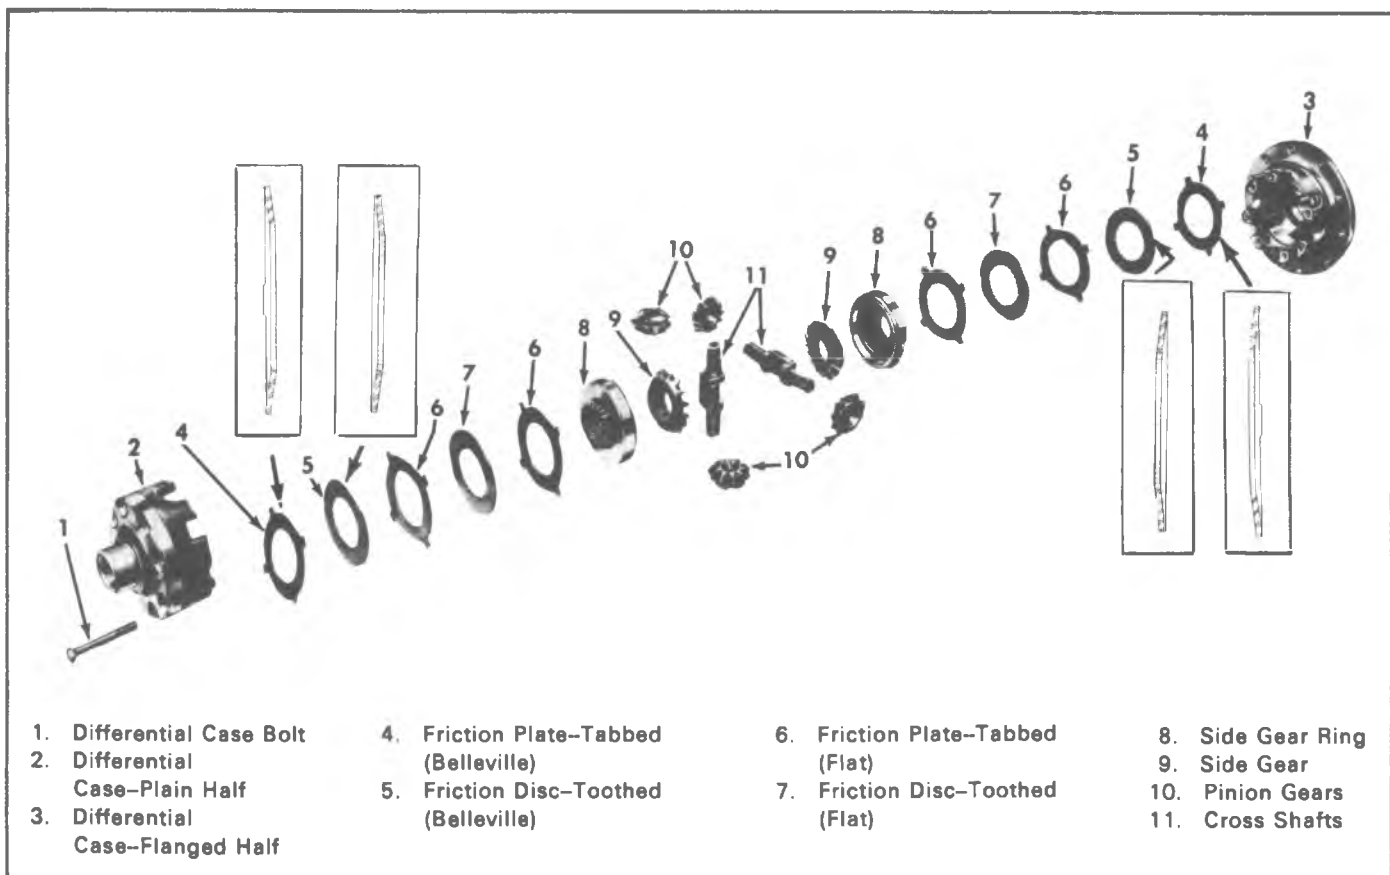

Fig. 22D--Power-Lok Differential
The Power-Lok differential shown in figure 22D is a unit which is installed as optional equipment in place of the standard differential. The locking differential permits the major driving force to be transmitted to the wheel with better traction. This means that the vehicle can be operated on ice, snow, sand or under other adverse conditions with a minimum amount of slippage through one wheel.
friction plates on each side of differential side gears transmits drive from differential case to axle shafts. Carefully observe the order in which the plates are used, since they must be replaced in the same order. Refer to figure 22D.
1. Place tabbed Belleville friction plate (4) in flanged differential case, being extremely careful that convex (bulged) side is toward the side gear. See figure 22D.
2. Assemble remaining plates and discs to splines of side gear ring, being sure they are assembled in the same order of removal. The convex (bulged) side of the Belleville friction disc (5) should be toward the side gear and it should nest into the Belleville friction plate (4).
5. In the order listed install the following: (1) side gear, (2) side gear ring, (3) flat plate with tabs, (4) flat disc with teeth, (5) flat plate with tabs, (6) Belleville disc with convex (bulged) side up, or toward side gear, (7) Belleville plate, with convex (bulged) side up, or side toward gear.